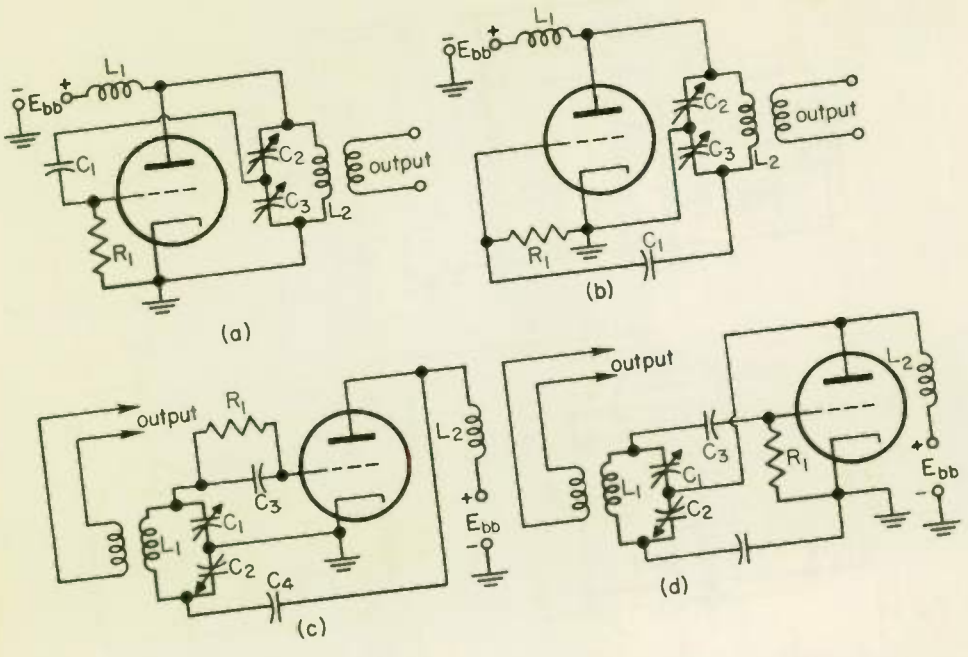

Fig. 34
25. Which circuit of Fig. 34 (if any) shows a Colpitts oscillator properly connected?